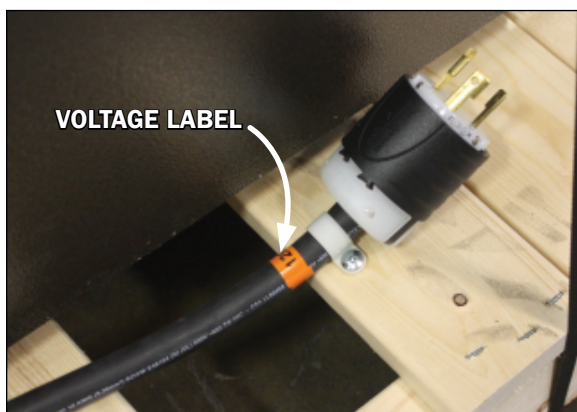

Fig. 8 Main power cord voltage label
Prior to plugging in and starting up the case always check the data tag located on the left end exterior panel or top interior of the case, as well as the voltage label found on the main power cord (Fig. 8) which can be found at the rear base panel. **Note:** **Check that the voltage of the receptacle you are going to use for power and the voltage required for the case match.**
1. After the main power cord (Fig. 8) located at the base panel of the case is plugged in and the power switch (Fig. 10) flipped to ON the case should begin normal operations.